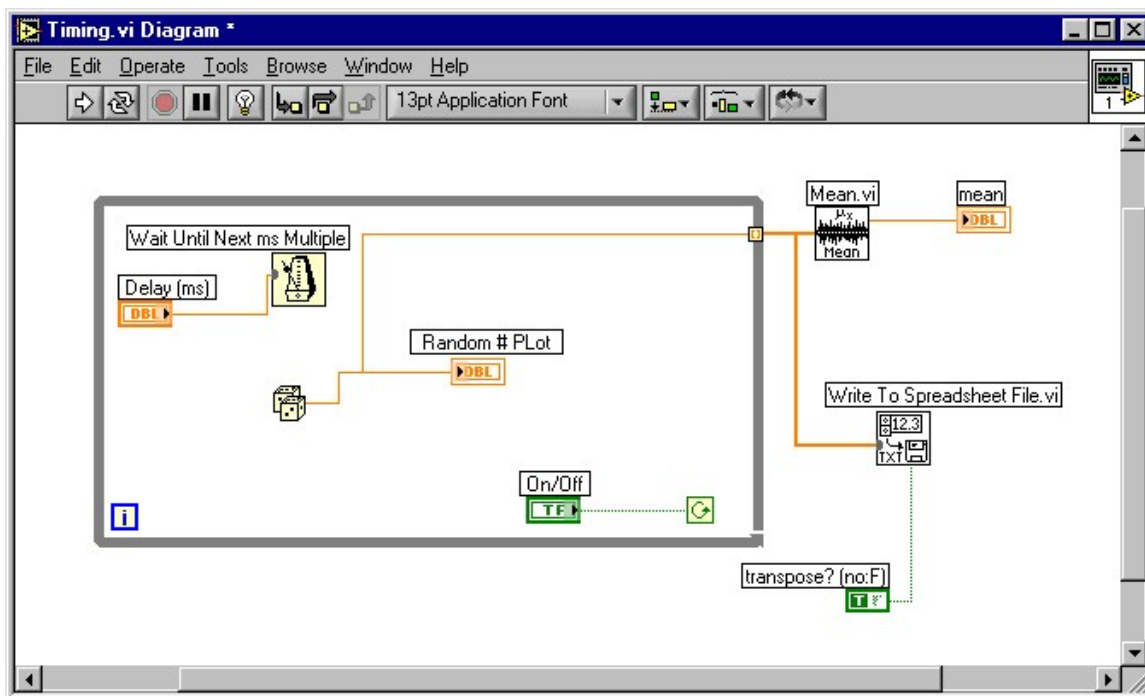

Figure 4. Block diagram of the *Timing.vi* for statistical analysis and file I/O.
Step 6: At the *Functions Palette* associated with the *Block Diagram* window, select *Time & Dialog >> Wait Until Next ms Multiple* (timer icon) and place it *inside* the *While Loop* as shown below in Figure 4. The timer icon looks like a metronome. Then use the wiring tool in the *Block Diagram* window to connect the *output* of the *Delay (ms)* control knob to the *input* of the timer icon, on the left-hand (input) side of the timer.
Step 8: We additionally would like to have this program compute e.g. the mean value of the random numbers generated. This statistical function is available from the *Block Diagram* window's *Functions Palette's Analyze >> Mathematics >> Probability and Statistics >> Mean.vi*. Use the mouse and place it outside the *While Loop* as shown below in Figure 4. Since we would like to view the mean value, *LabVIEW* provides a convenient way to generate such an indicator. Position the mouse over the top right corner of the *Mean* function and open the popup menu. Select *Create Indicator*. This will automatically create a numeric indicator labeled *mean* on the *Front Panel* window.
Step 10: Wire the icons in *Block Diagram* window as shown above in Figure 4 using the wiring tool. Note that: